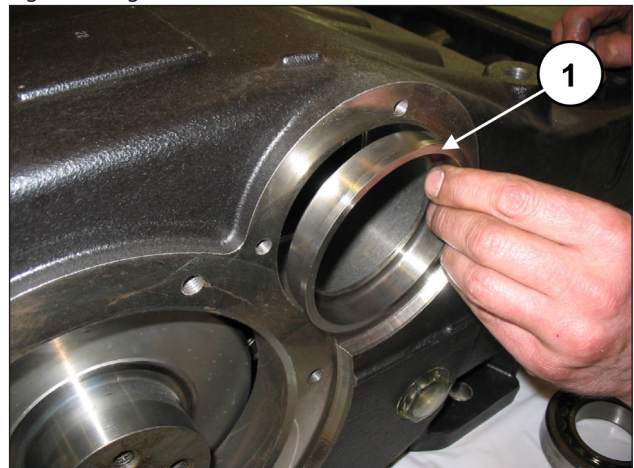
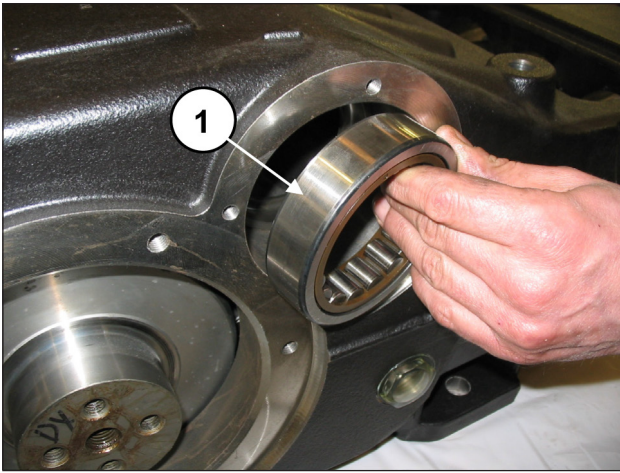

Fig. 54
Fig. 55
From one side of the casing, insert the bearing lubrication bush (pos. ①, Fig. 54) and an external bearing ring (pos. ①, Fig. 55) using a buffer and an extractor hammer.